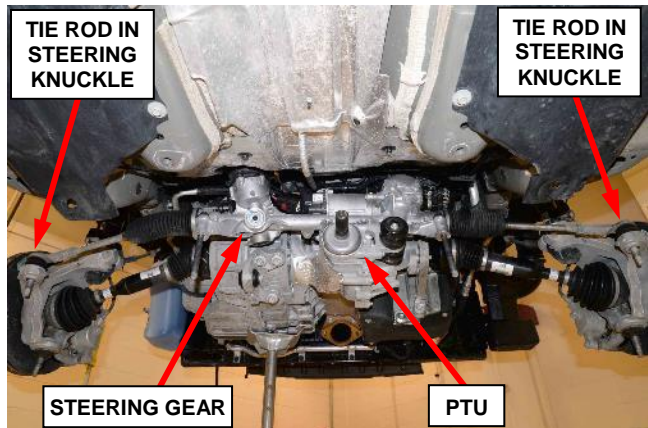

Figure 81 – Description
58. **AWD/4WD only:** Remove the tie rod ends from the steering knuckles then tilt and remove the steering gear from the vehicle (Figure 81).
12. **AWD/4WD only:** Insert the **NEW** long bolts into the steering gear. Position the steering gear to the vehicle on the top of PTU assembly and place the tie rod ends into the steering knuckles for additional support of the steering gear (Figure 81).